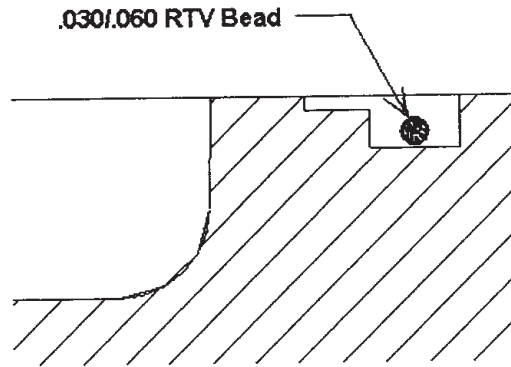

Figure 14
- 4.6.5.1 The 48WCB2 incorporates a dual groove for both the Superflex® #596 Sealant and an O-ring. An initial bead of sealant .030"-.060" (0,7 - 1,5mm) in size must be applied to the bottom of the deep groove in order to hold the O-ring in place. See **Figure 14**.